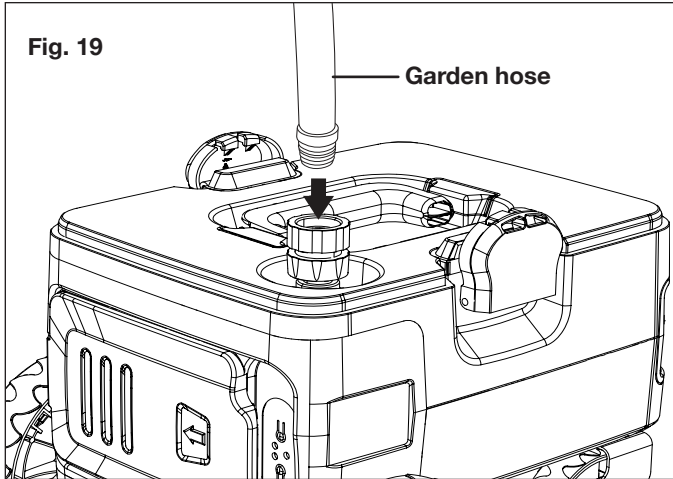

Fig. 19
6. Thread your garden hose (male end) into the garden hose adapter (Fig. 19). The garden hose must have an internal diameter of at least 13 mm (1/2 in.) and must be reinforced. The water supply must be at least equal to the washer delivery capacity.